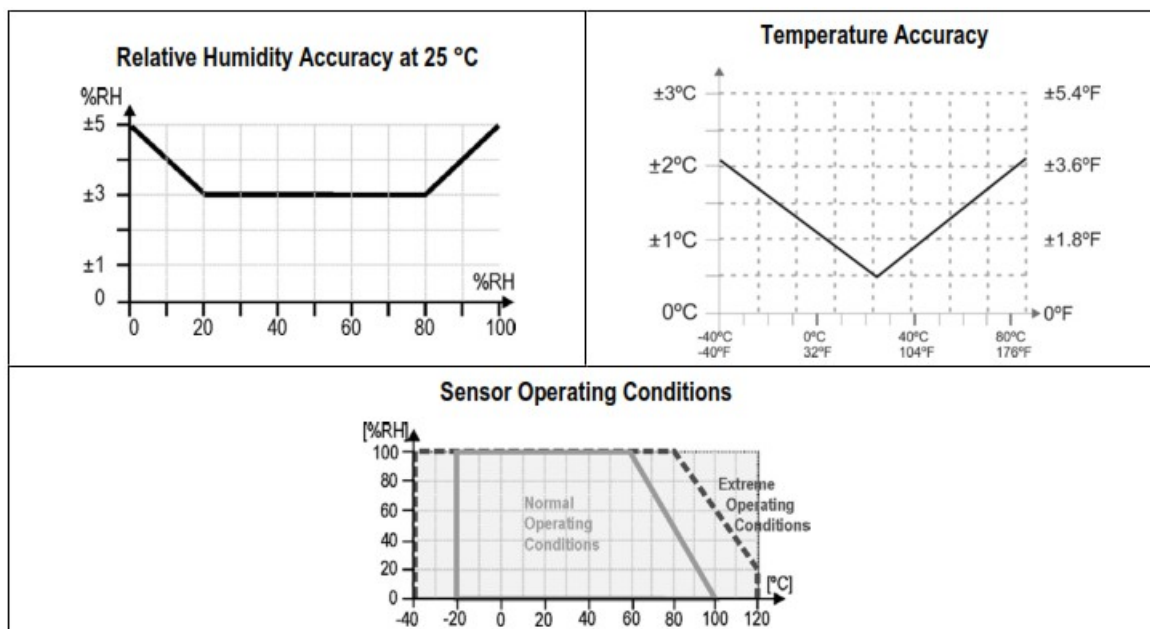

Fig. 1 – RH and Temperature accuracies
**Accuracy:** Refer to Fig. 1;